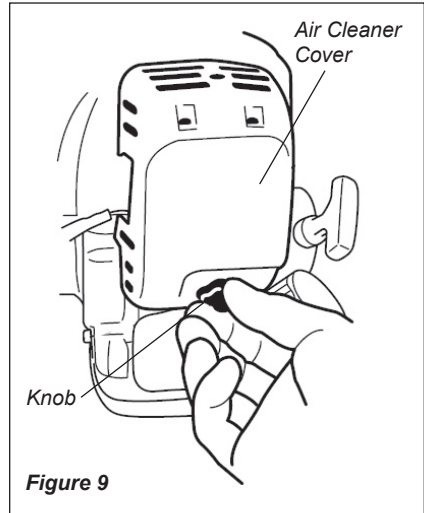

Figure 9
1. Loosen the air cleaner cover knob and remove the air cleaner cover. See Figure 9.